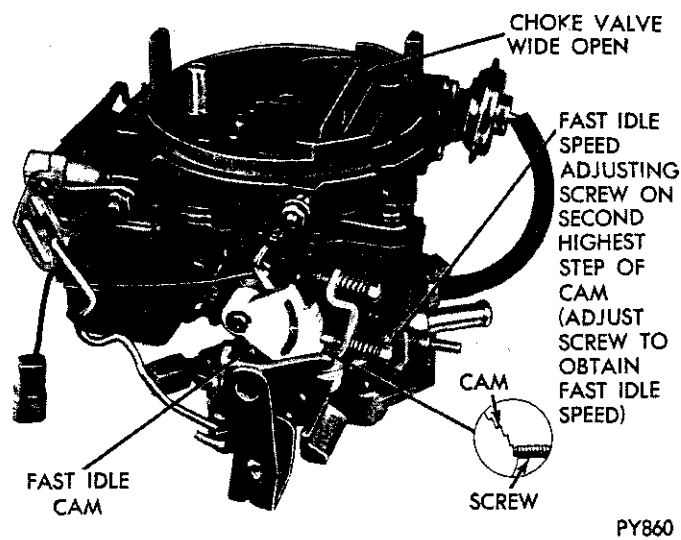

Fig. 26—Fast Idle Speed Adjustment (On Vehicle)
(1) With engine off and transmission in **PARK** or **NEUTRAL** position, open throttle slightly.
(2) Close choke valve until fast idle speed screw can be positioned on second highest speed step of fast idle cam. (Fig. 26).
(3) Start engine and determine stabilized speed. Turn fast idle speed screw **in** or **out** to secure specified speed. (See Specifications.)
(4) Stopping engine between adjustments is not necessary. However, reposition fast idle speed screw on cam after each speed adjustment to provide correct throttle closing torque.